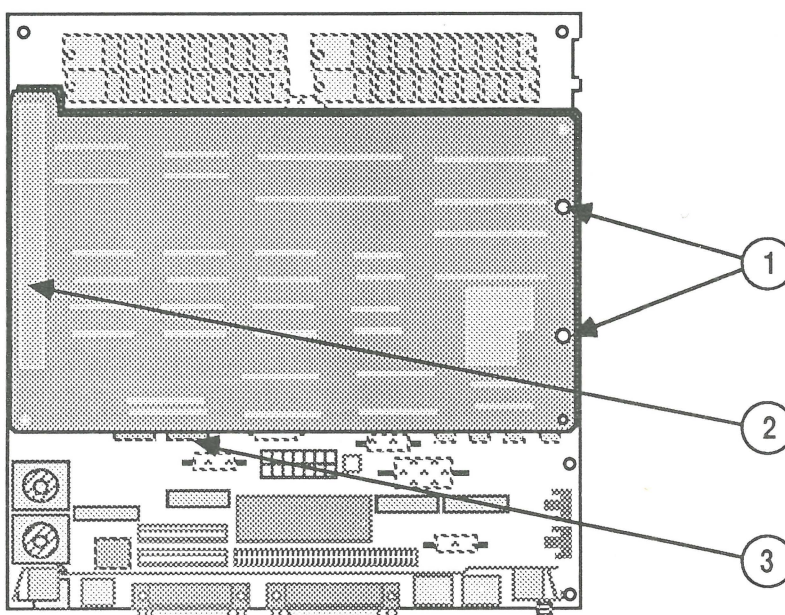
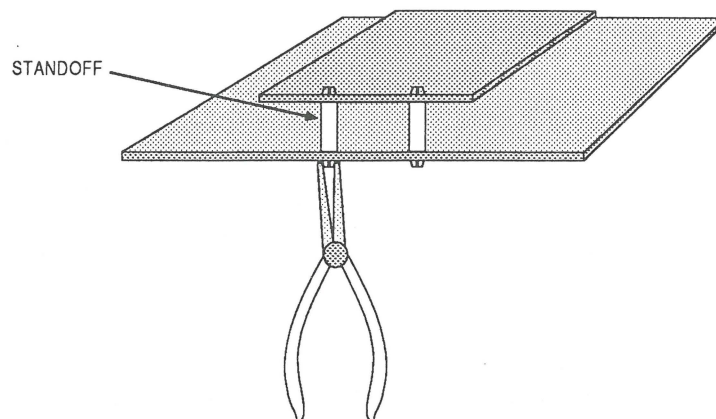

FIGURE 9
FIGURE 10
- IPL.15 Macintosh Display Card 8/24•GC (Figure 9)
- IPL.17 Apple IIe Card (Figure 10)
5. Unplug the SE-Bus PC Card cable from the 26-pin connector on the SE-Bus PC Card (Figure 9, #3).
6. Working from the bottom side of the logic board, squeeze the plastic standoff ends (Figure 9, #1) with a pair of pliers, and push the standoffs out of the holes (Figure 10).
7. Unplug and remove the card from the 96-pin Euro-DIN connector on the main logic board (Figure 9, #2).
8. Use a pair of pliers to remove the plastic standoffs from the card (Figure 10).